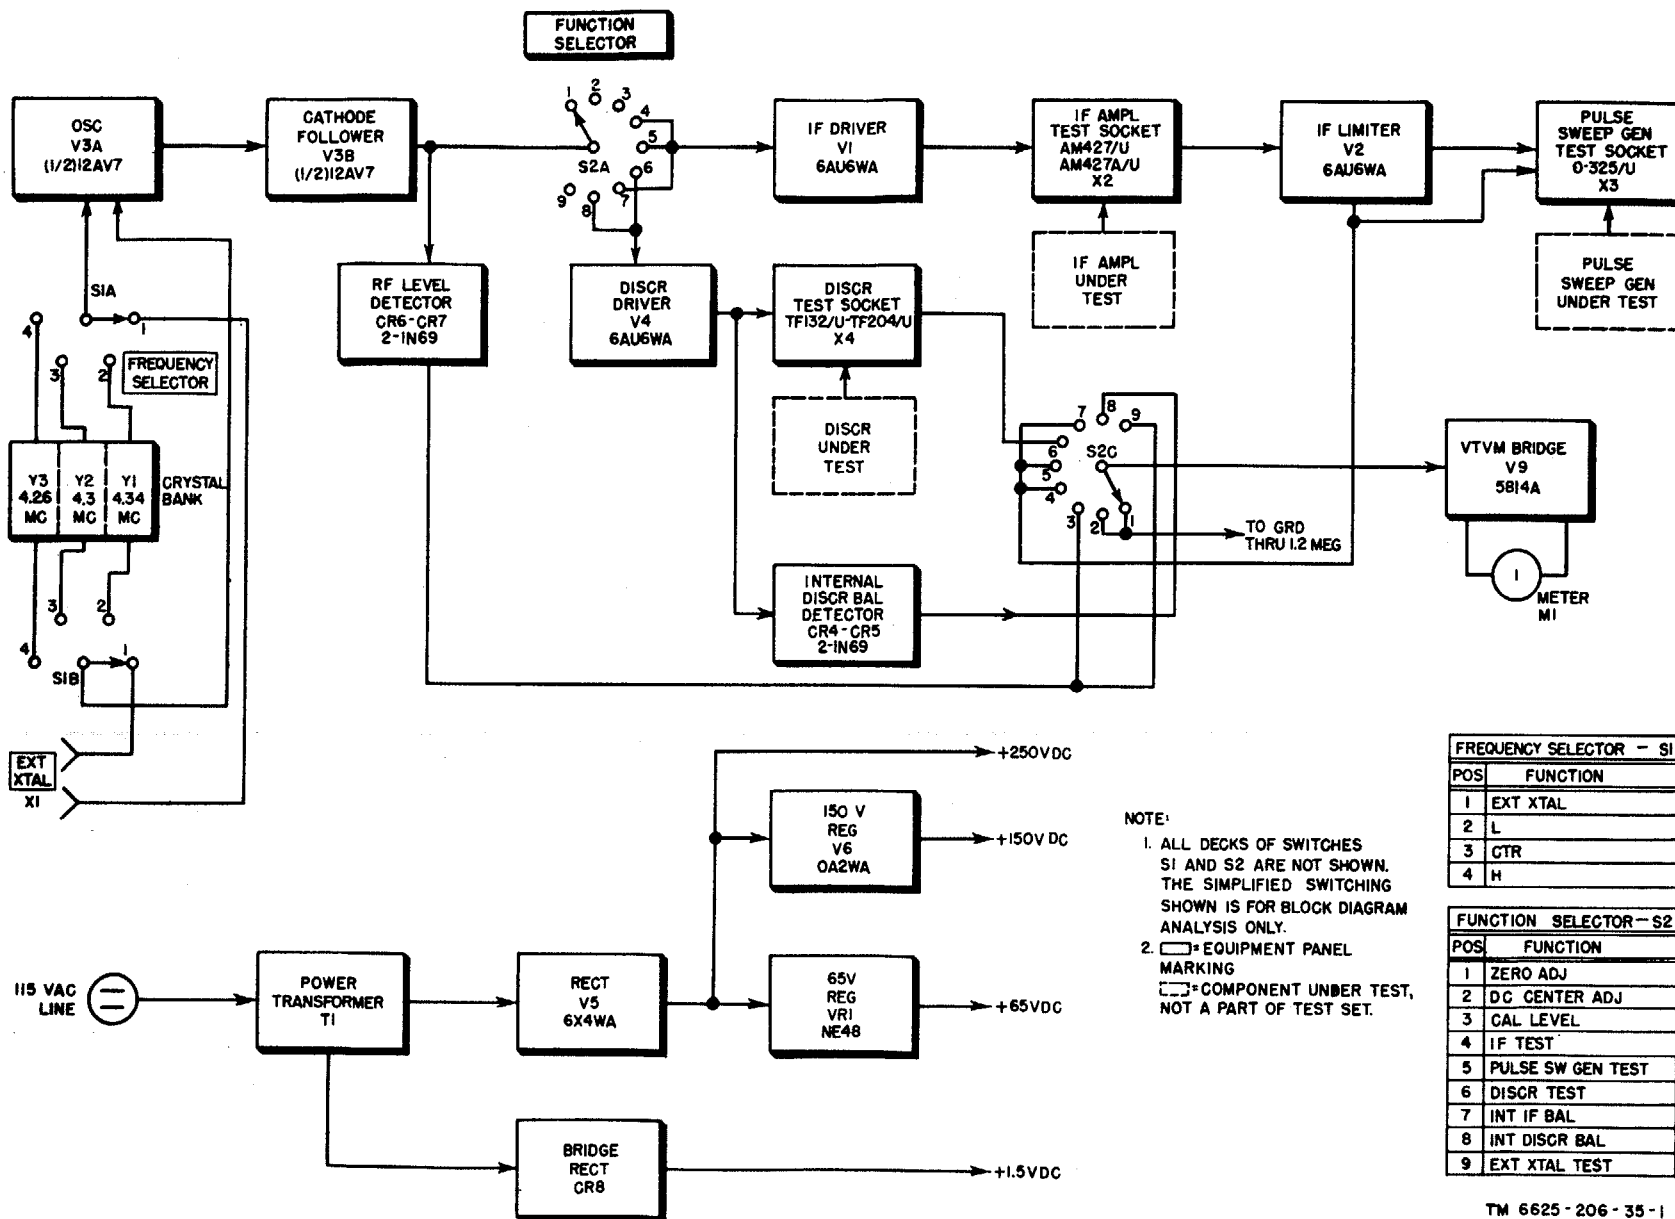

Figure 1. Block diagram.
The test set provides three crystal-controlled test signals to check equipment under test. The test signals are selected by front panel controls and are applied to the equipment under test through internal driver stages. The output of the equipment being tested is monitored by a vacuum-tube voltmeter (vtvm) bridge circuit and is displayed on an indicating meter. The signal path for the test set is shown in the block diagram (fig. 1).
c. *Cathode Follower V3B.* Cathode follower V3B serves as a buffer for the oscillator and provides a low impedance driving source for the following stages. The output of the cathode follower is applied to the FUNCTION SELECTOR switch and to the radio-frequency (RF) level detector.
e. *Intermediate-Frequency Driver.* When the FUNCTION SELECTOR switch is at IF TEST, PULSE SW GEN TEST, or INT IF BAL (position 4, 5, or 7, fig. 1), the RF signal is applied to intermediate-frequency (IF) driver V1. The output of V1 is transformer coupled to the IF AMPL TEST SOCKET.
i. *Discriminator Driver.* When the FUNCTION SELECTOR switch is at DISCR TEST or INT DISCR BAL (positions 6 or 8, fig. 1), the output of cathode follower V3B is applied to discriminator driver V4. The output signal from V4 is coupled to the DISCR TEST SOCKET and to internal discriminator balance detector CR4 and CR5.
k. *Internal Discriminator Balance Detector.* A detector consisting of CR4 and CR5 detects the output of V4 and applies this voltage to the vtm bridge through the FUNCTION SELECTOR switch. This voltage is used to check the alinement of the unit under test when the FUNCTION SELECTOR switch is set in DISCR TEST or INT DISCR BAL (positions 6 or 8, fig. 1).